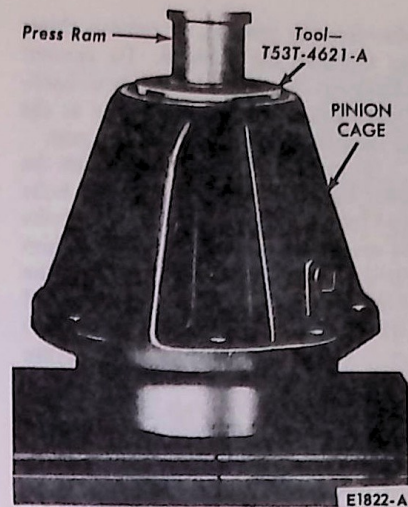

FIG. 24 Installing Hypoid Pinion Front Bearing Cup
3. Install the front bearing cup in the pinion cage with the tool shown in Fig. 24, making sure that the cup seats firmly against the shoulder in the cage.
3. Install the front bearing cup in the pinion cage with the tool shown in Fig. 24 making sure that the cup seats firmly against the shoulder in the cage.